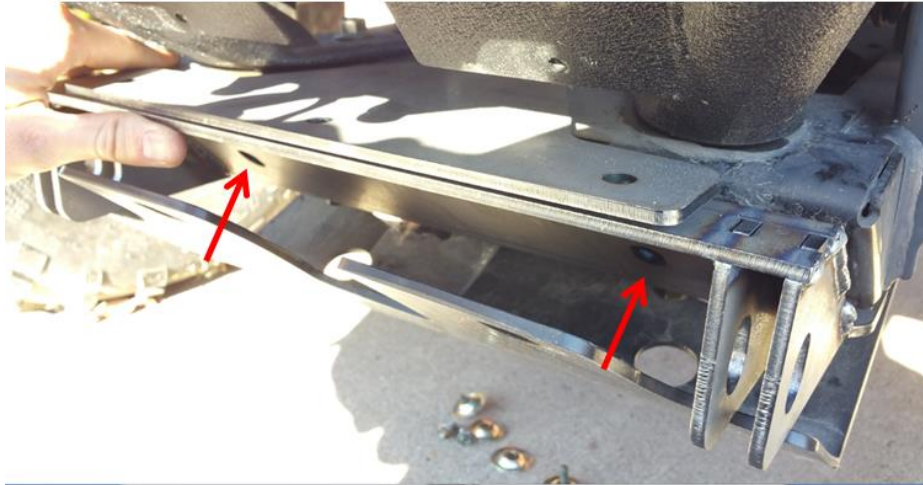

Figure 4
3. Insert the (2) M10 Hex Bolts (17mm Socket), Lock Washers and Flat washers into the front angled face of the Plow Mount Base as shown in Figure 4.